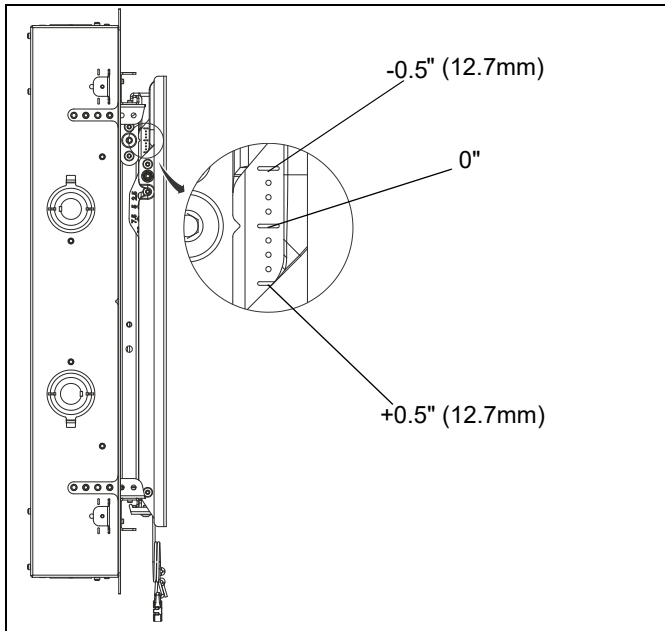

Figure 30
2. Refer to height adjustment markings on side of each interface bracket (A and B) to check adjusted height of each bracket. (See Figure 30)